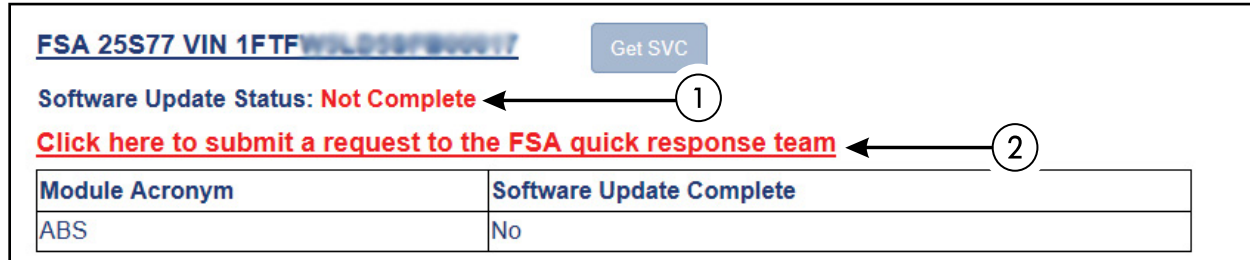

FIGURE 7
32. Does the FDRS Software Update Status display a **Not Complete** status (1)? See Figure 7.
34. Use the "Click Here to submit a request to the FSA Quick Response Team" link (2) shown in Figure 7. Follow the on-screen prompts to enter the following information: